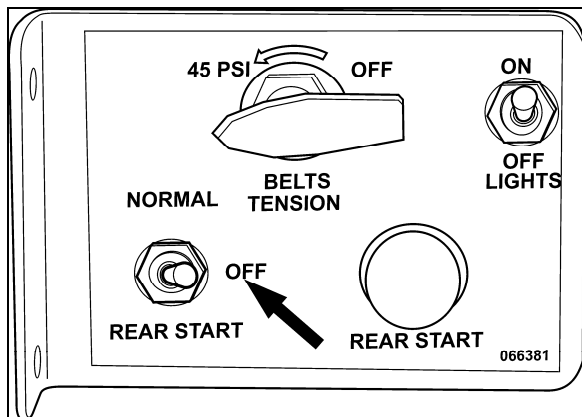

FIGURE 11: REAR START PANEL
3. Set starter selector switch to the OFF position (Fig. 11).